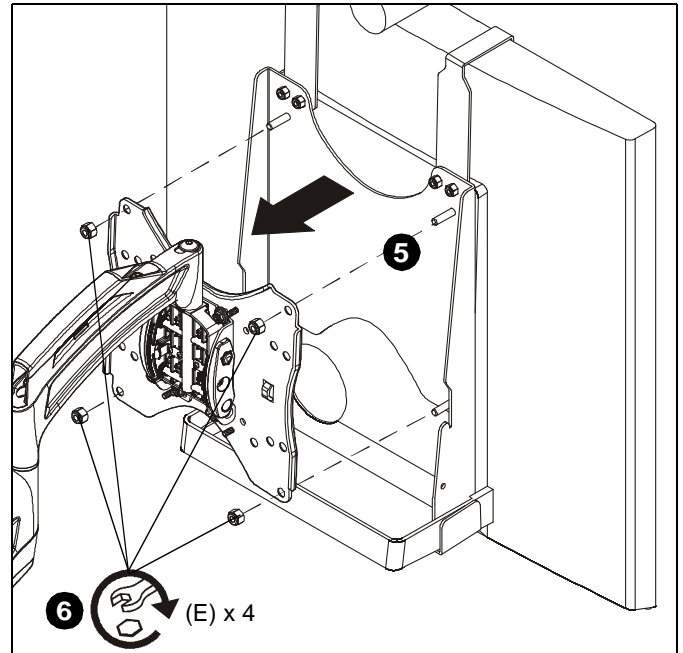

Figure 3
5. Attach display to swing arm by lining up and inserting four studs on interface bracket (A) into holes in swing arm. (See Figure 3)
6. Fasten display to swing arm using four 10-24 locknuts (E). (See Figure 3)